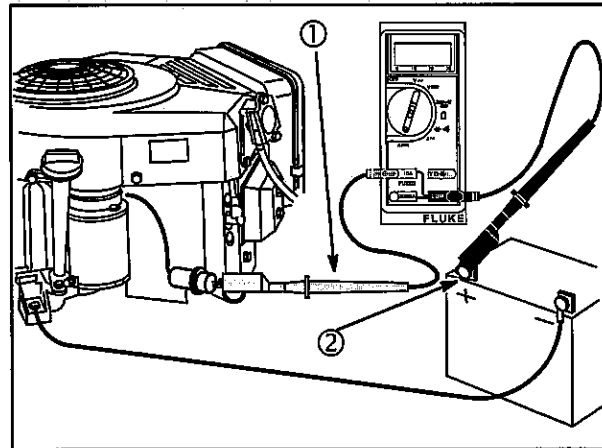

Fig. 13
4. Attach RED test lead clip (1) to DC output terminal, Fig. 13.
5. Attach BLACK test lead clip to POSITIVE (+) battery terminal (2).